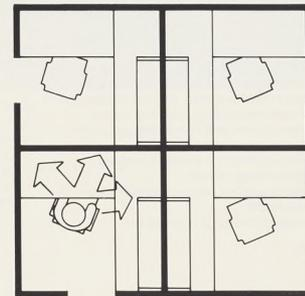

figure 2
2. Confidential speech privacy—a condition of privacy in an open plan in which the percentage of overheard and understood complete sentences is so small that eavesdropping is not possible. (See figure 2).